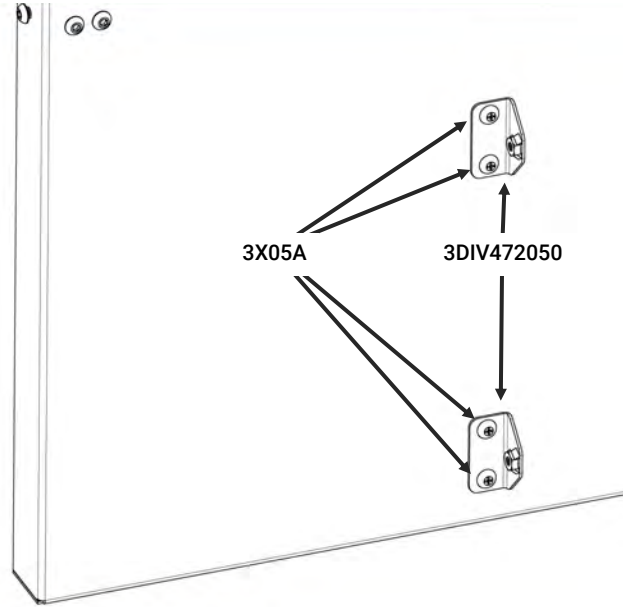

Figure 2b
2. Using a #3 Phillips screwdriver and a 7/16" wrench, install the (2) Lower Divider Brackets [3DIV472050] with (4) [3X05A] 1/4-20X7/8" screws and (4) [3X612] 1/4-20 black whiz nuts (Fig 2b).